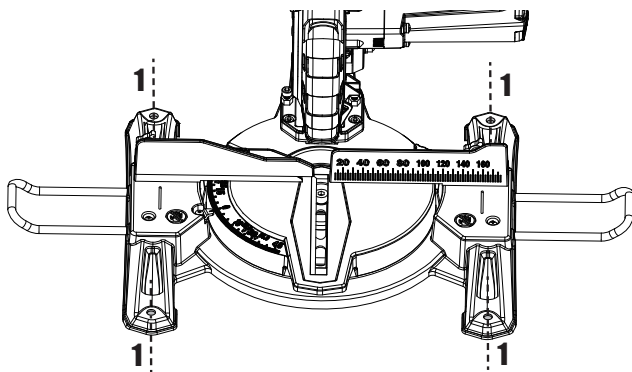

Figure 10
5. MOUNTING BOLT (SEE FIG. 10)